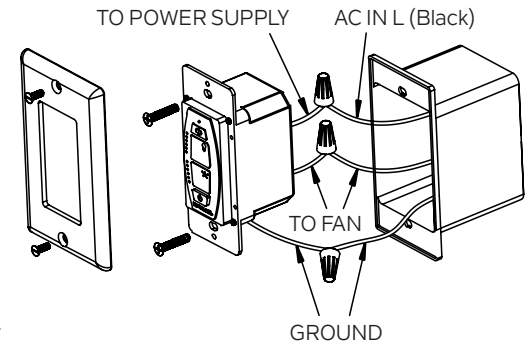

Fig. 16
Step 2. Install the wall control to the outlet box, connecting the wires with wire connectors provided. (Fig. 16)